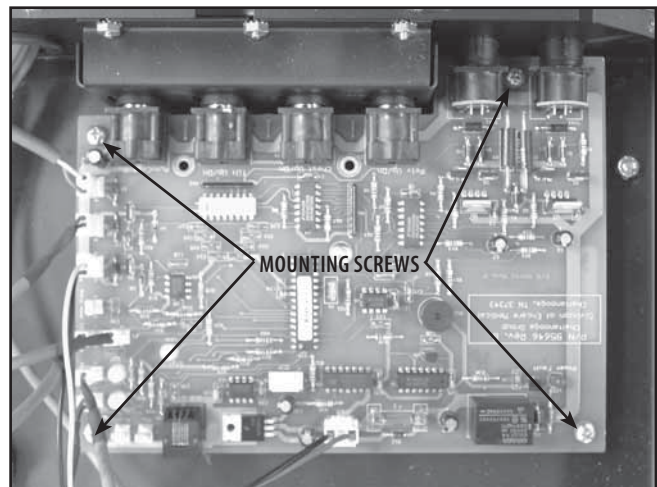

FIGURE 5.11
5. Remove the four Control Board Mounting Screws and lift the Control Board out of the Electrical Panel. See Figure 5.11.